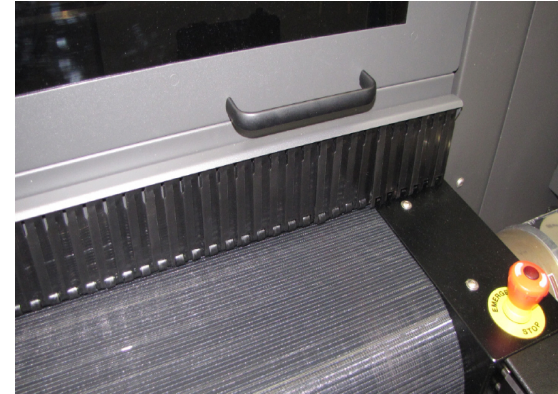

Figure 2-42: Door rollers
- A. Wipe down front door rollers with a clean wipe and IPA to remove ink and debris, Figure 2-42.